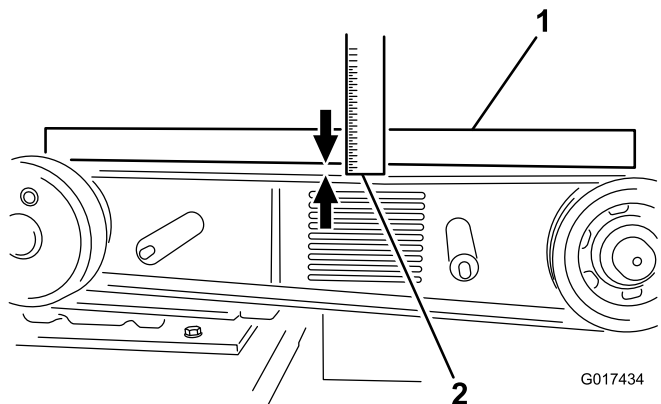

Figure 26
8. Lay a straightedge across the clutch and flywheel pulleys. Tighten the belt-tension bolt so there is 10 mm (0.40 inch) of flex in the belt when pushing down with 6.8 kg (15 lb) force at mid-span (when re-tensioning a belt in use), or with 8 kg (18 lb) force when installing a new belt (Figure 26).